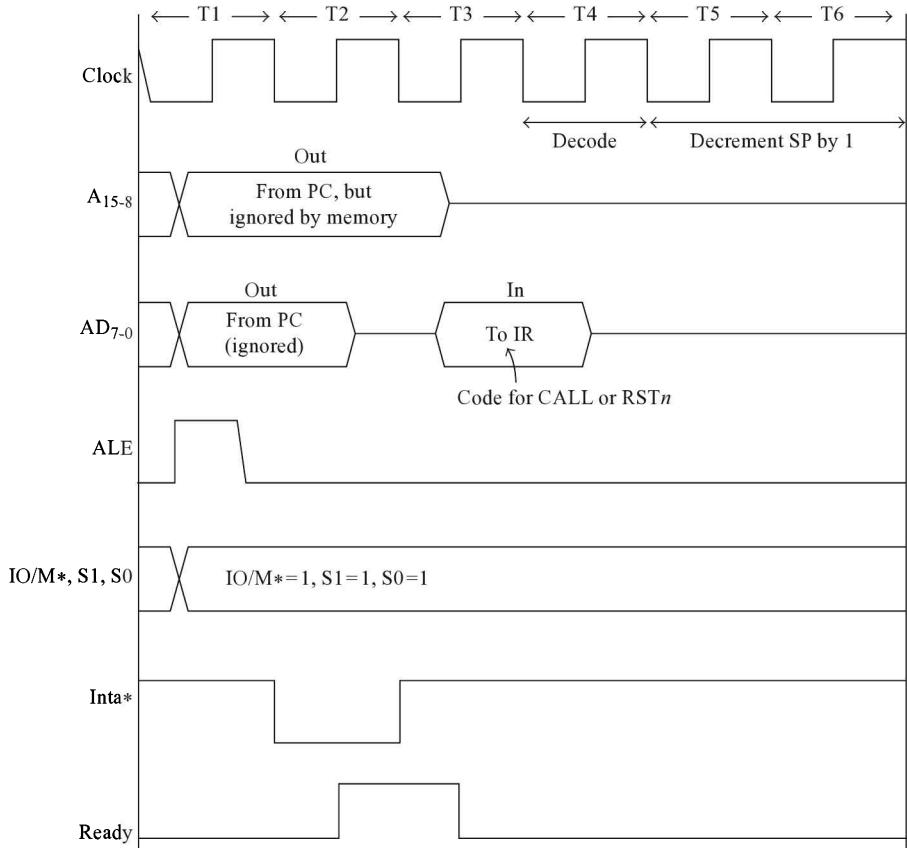

Fig. 18.10 Interrupt acknowledge (INA) machine cycle
8259 interrupt controller is capable of sending such a CALL instruction to 8085. Intel 8259 is discussed in a later chapter. Note that the CALL instruction does not come from memory in this case. So this M1 machine cycle is not an OF machine cycle from memory. Also, it is not an IOR machine cycle, because INTA* is activated, and not RD*. In this INA machine cycle, IO/M*, S1, and S0 will all be in 1 state. This INA machine cycle is shown in Fig. 18.10. INTA* signal becomes a 1 after the 8085 receives the code for CALL during this INA machine cycle. This INA machine cycle that fetches the code for CALL and decodes it, uses six T states.
3. The interrupt from the I/O port is acknowledged by the 8085 by activating INTA* pin in the T2 state of INA machine cycle. In response to INTA*, an I/O port should send code for an RST n ($n = 0$ to 7) instruction to IR register of 8085 on AD₇₋₀ pins. An I/O port chip like Intel 8255 is capable of sending such an RST n instruction to 8085. Intel 8255 is discussed in a later chapter. Note that the RST n instruction does not come from the memory in this case. So this M1 machine cycle is not an OF machine cycle from memory. Also, it is not an IOR machine cycle, because INTA* is activated, and not RD*. In this INA machine cycle, IO/M*, S1, and S0 will all be in 1 state. This INA machine cycle has already been shown in Fig. 18.10. INTA* signal becomes a 1 after the 8085 receives the code for RST n during this INA machine cycle. This INA machine cycle that fetches the code for RST n and decodes it, uses six T states. Now the 8085 knows that it has to transfer control to the ISS at location $n * 8$. For example, if the instruction received was RST6, the control should be transferred to the ISS at $6 * 8 = 0030H$. This address will be internally stored in the WZ register pair by the control unit of 8085. Now it is required to first of all save on the stack top the return address available in the PC, before branching to the ISS.